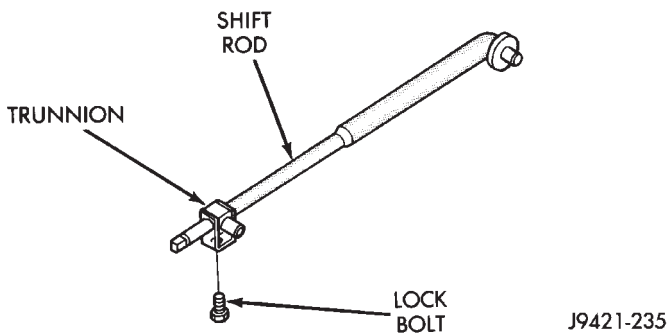

Fig. 107 Shift Rod Lock Bolt Location
- (1) Move shift lever into 2H position.
- (2) Raise vehicle.
- (3) Loosen shift rod lock bolt at trunnion (Fig. 107).